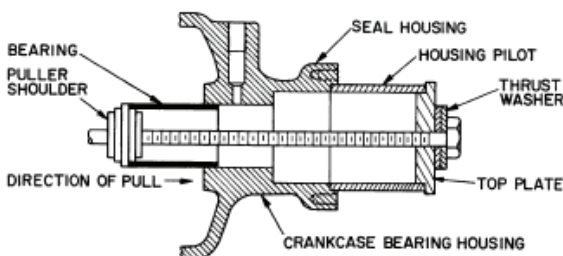

Fig. 26 — Seal-End Main Bearing (5F40, 60)
3. Press bearing into place using a puller shoulder (see Table 6 and Fig. 26 and 27) and jack screw or bearing press.
With crankshaft removed, use a bearing puller with a shouldering device to remove and install seal-end main bearings. (Refer to Fig. 26 and 27). Bearing pullers can be ordered through Carlyle or Totaline Parts.